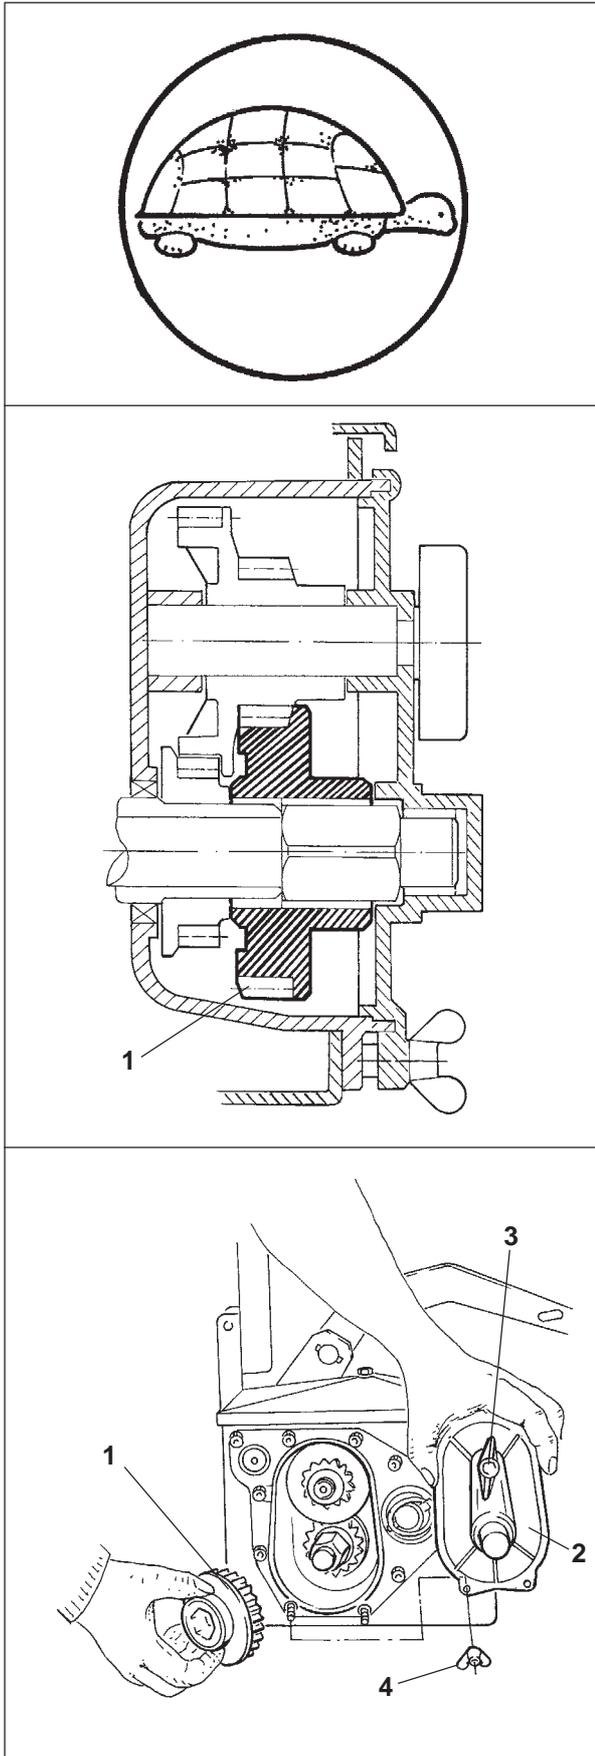
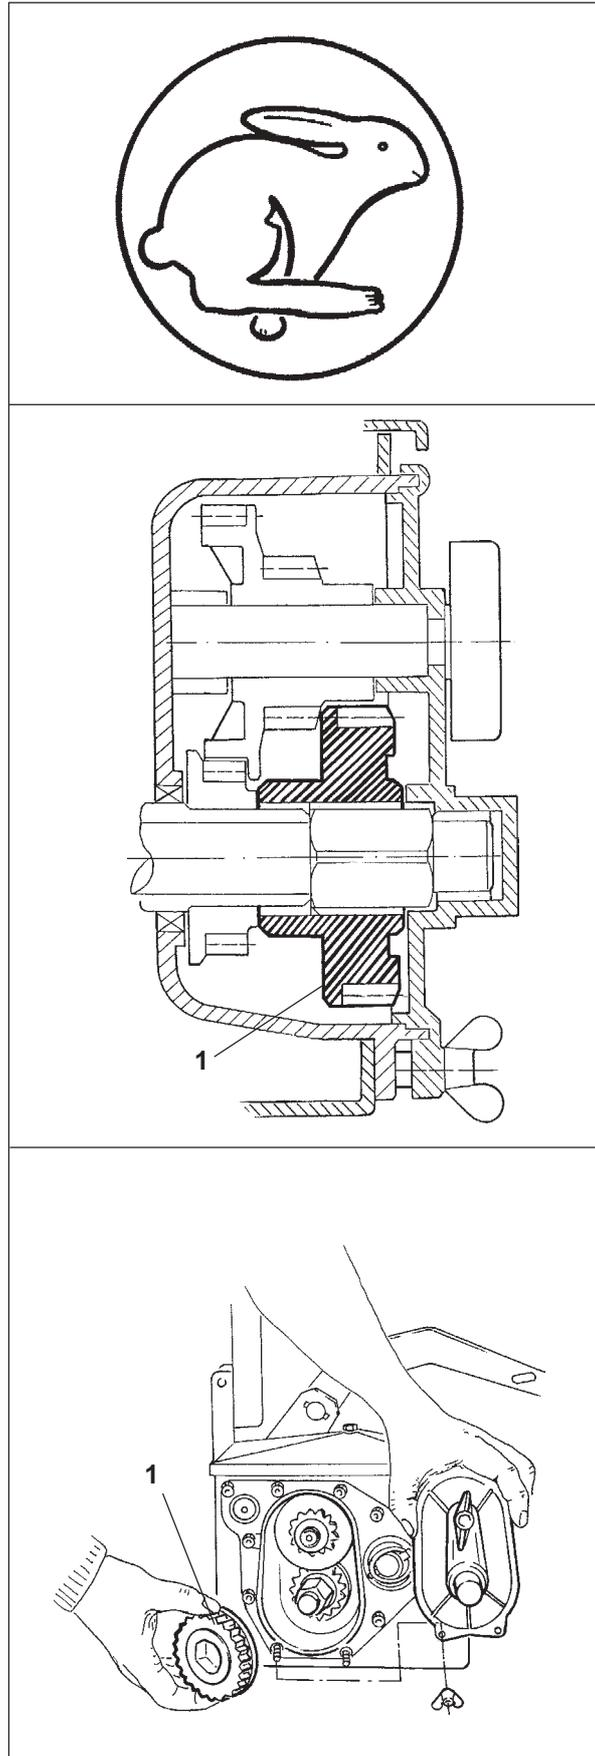

Fig. 21.13
Fig. 21.14
slow speed (see Fig. 21.13)	fast speed (see Fig. 21.14)
- Open the lid (Fig. 21.13/2) after removing the thumb nut (Fig. 21.13/3) and the two thumb nuts (Fig. 21.13/4) .
- in the "**slow speed**" the pinion (Fig. 21.13/1) is meshing with the second pinion
- in the "**fast gear**" the pinion (Fig. 21.14/1) runs freely unengaged.
- Put lid (Fig. 21.13/2) back in place.